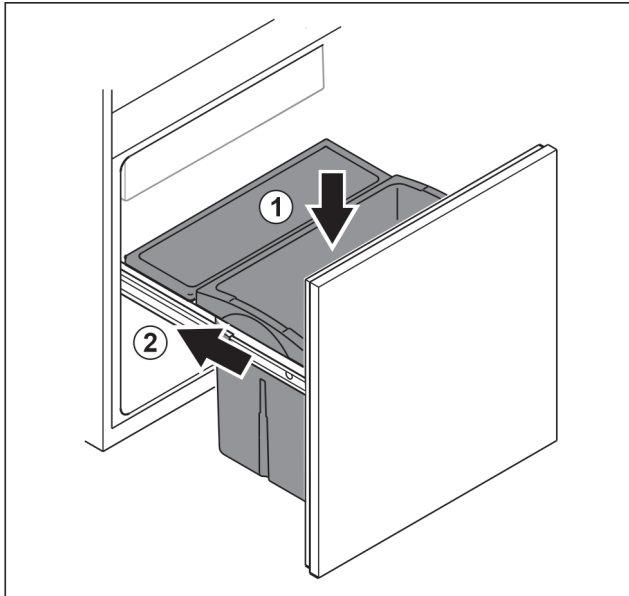

Fig. 106
- ▶ Insert drawer from above. Fig. 106 (1)
- ▶ Slide in pull-out unit. Fig. 106 (2)